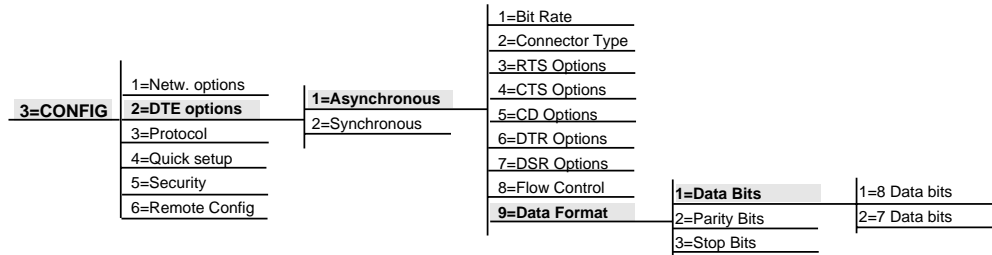

Figure 6-7
V.25 bis specifies that the characters should be ASCII, 7 bits, even parity and one stop bit. However, for versatility the ISU 2x64 allows the data bits, parity, and stop bits as defined under **Data Format**. (See Figure 6-7.)